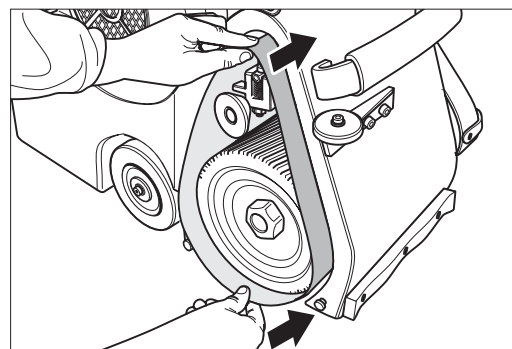

Fig. 9 Push the sanding belt far enough over the sanding drum and tensioning roller so that the sanding drum is fully covered by the belt.
- 10 Position the sanding belt so that it evenly covers the sanding drum (Fig. 9).